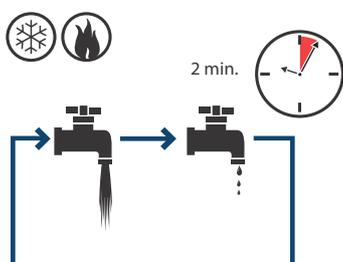

Fig. 26 Operating hot- and cold-water taps
4. Operate maximum hot and cold flows for at least two minutes to flush out all debris. See fig. 26.